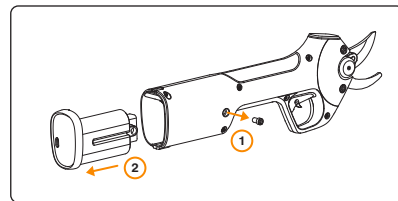

Figure 6: Removing and changing the battery.
- Remove the Allen screw 4mm from the cover as described in the Figure 6.